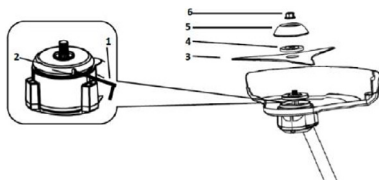

Fig. 3
- To install the safety guard, connect its ends to the holes on each side of the housing (see fig. 3).